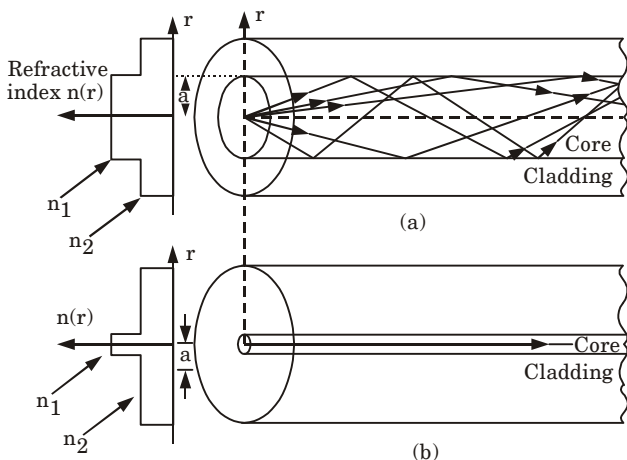

Fig. 5. The refractive index profile and transmission in step index fibers : (a) multimode step index fiber ; (b) single-mode step index fiber.
5. The Fig. 5 shows a multimode step index fiber and single mode step index fiber. In multimode step index fiber core diameter is around 50 μm or greater, which is large enough to allow the propagation of many modes within the fiber whereas single mode step index fiber has a very fine thin core, so that only one mode can be propagated.